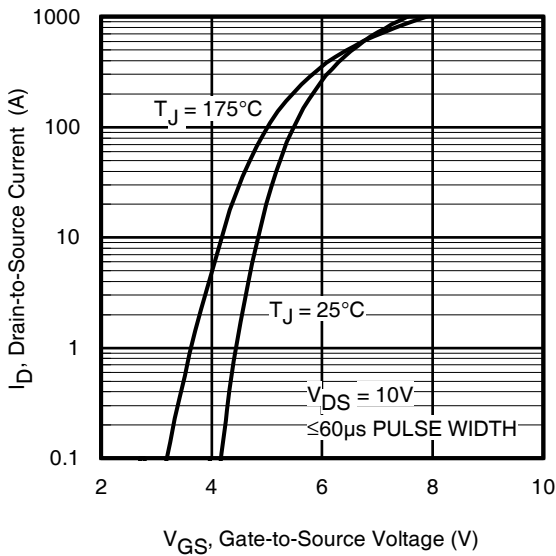
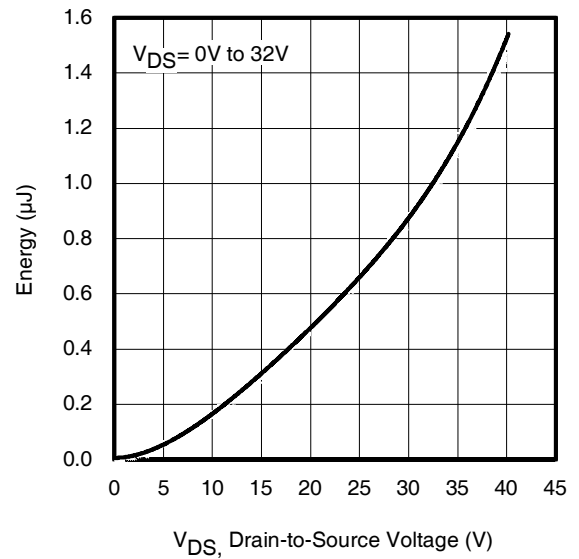

Fig 5. Typical Transfer Characteristics
Fig 12. Typical C_{OSS} Stored Energy
| C_{iss} | Input Capacitance | — | 10820 | — | pF | $V_{GS} = 0\text{V}$ $V_{DS} = 25\text{V}$ $f = 1.0\text{ MHz}$, See Fig. 5 $V_{GS} = 0\text{V}$, $V_{DS} = 0\text{V}$ to 32V ⑦, See Fig. 12 $V_{GS} = 0\text{V}$, $V_{DS} = 0\text{V}$ to 32V ⑧ |